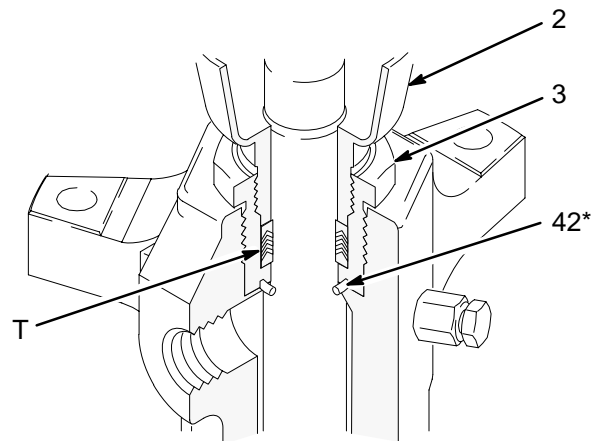

Fig. 9
7. Using a rubber mallet, drive the displacement rod (1) and the priming piston rod (18) out of the outlet housing (9) and cylinder (10). Inspect the outer surfaces of the rods for damage by running a finger over the surface.
8. Unscrew the packing nut (2). Unscrew the packing housing (3) and remove the seal (42). Remove the throat glands and packings (T). See Fig. 9.